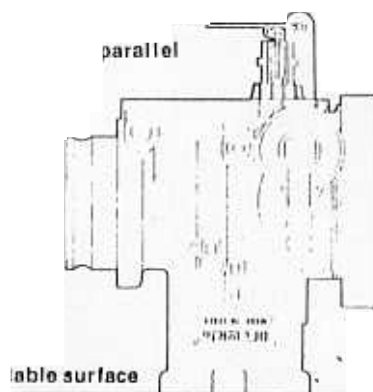

fig. 14
- for the floats with independent parts, hold the carburettor upside down (fig. 14) and check that the float arm is parallel to the carburettor face.